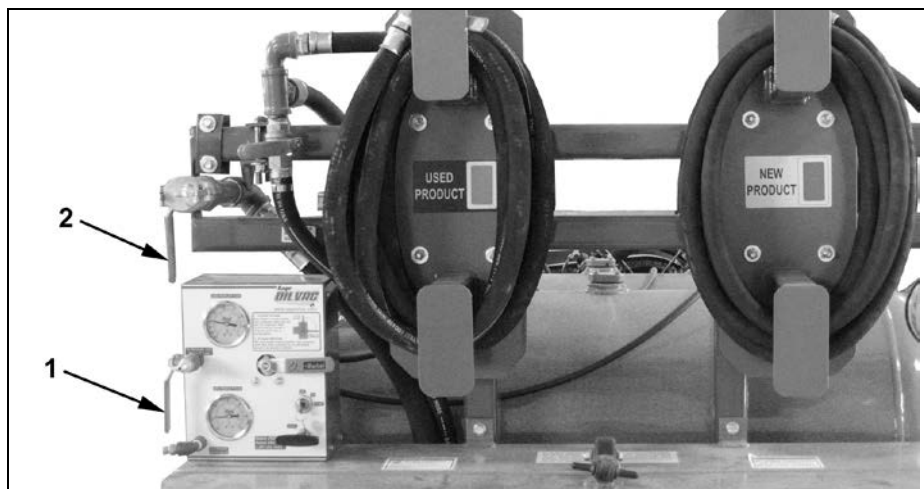

Figure 15 - Used Product Disposal
- Connect the compressor air supply hose to the used product tank air inlet and open air inlet valve (1). See Figure 15.
- Open the used product tank discharge valve (2) to start evacuation of waste fluids.